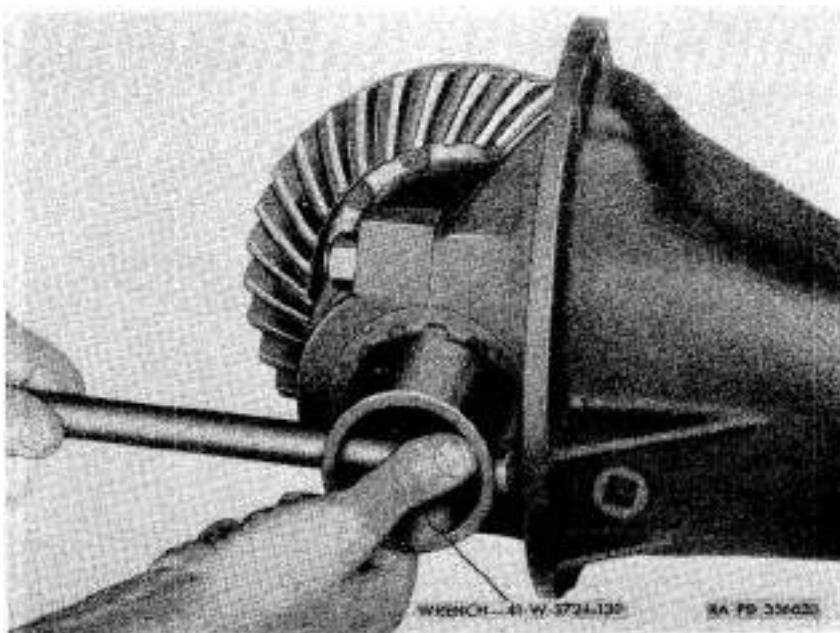

Figure 79. Turning differential bearing adjusting nut.
- (2) Remove $\frac{5}{8}$ -18NF nuts (AB) and $\frac{5}{8}$ -inch lock washers (AD) from the differential bearing cap studs (AJ).
- (3) Remove 5/16-18NC x $\frac{5}{8}$ lock washer screws (T and ZZ) and differential bearing adjusting nut locks (S and AC); then loosen differential bearing adjusting nuts (N and AF) with wrench 41-W-3724-130 (fig. 79). Remove adjusting nuts and differential bearing caps (Q and AE) from drive pinion carrier assembly (K).
- (4) Remove differential with drive gear assembly and differential bearing cups (EE and QQ) from drive pinion carrier.